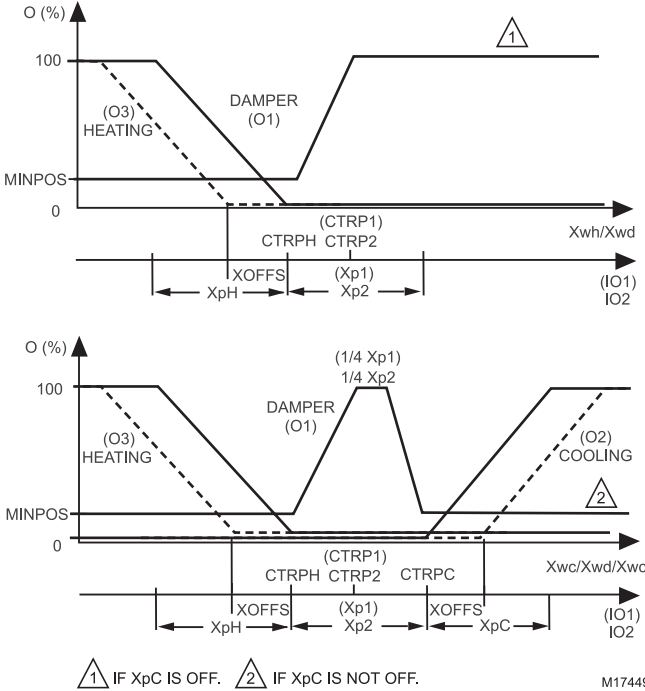

Fig. 8. Cascade control output sequence.
NOTE: If no cooling actuator is available, the parameter *Xpc* can be set to Off and damper output is maintained at 100 percent above control point (CTRP1) (see Fig. 8).
If damper output should be reduced to MINPOS level above CTRP1 (see Fig. 8), and if no cooling actuator is available, parameter *Xpc* must be adjusted to a value between 2°F and 72°F.
On the R7426C controller the characteristic of each output can be selected via the parameters DIR/REVx (where x is O1, O2 or O3). See Fig. 8 for Dir characteristic for all outputs.
- See Fig. 8 for damper control signal within the range $Xp1$ or $Xp2$ for cascade control.
On the R7426C controller each output characteristic can be selected via parameters DIR/REVx (where x is O1, O2 or O3). Fig. 8 shows: